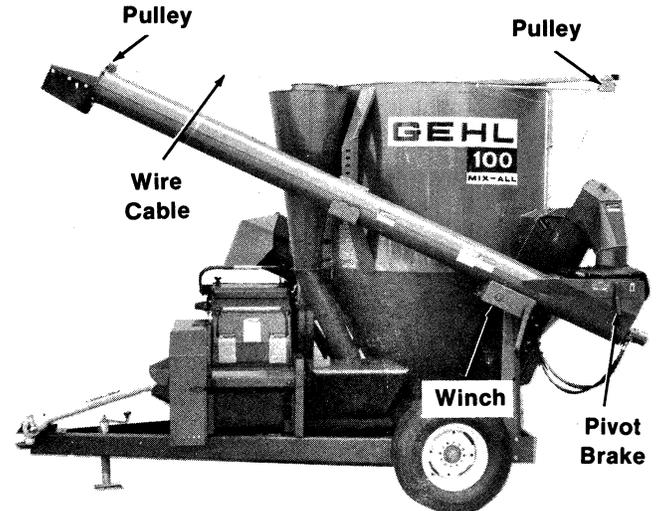

Fig. 9-20
### Wire Cable & Pulleys (Figs. 9-20 & 9-21)
**Winch (Figs. 9-22 & See Fig. 9-20)**